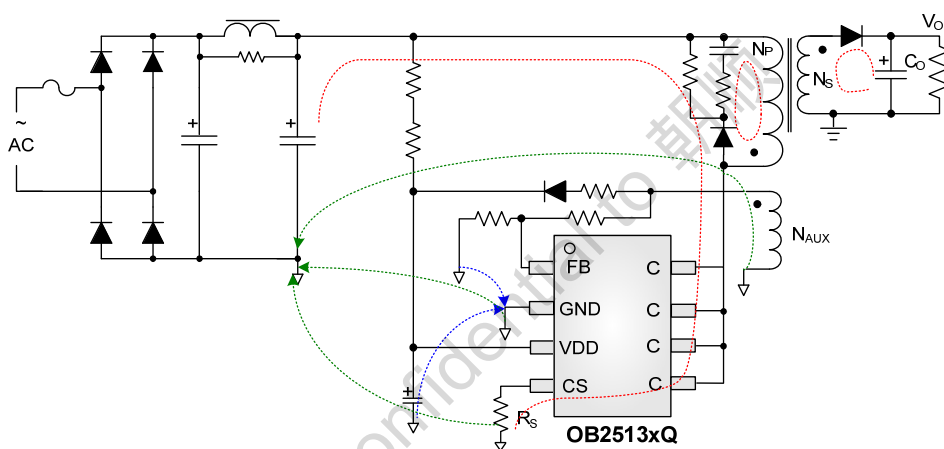

Fig.5 Flyback Schematic with OB2513xQ
**The Area of Power Loop:** The area of the main current loop should be as small as possible to reduce EMI radiation, such as the primary current loop, the snubber circuit and the secondary rectifying loop (Red wire as shows in Fig.5). Drain pin increases the copper area of the drain terminal for heat dissipation (Green region as shows in Fig.6). And the PCB trace must be wide and short for thermal consideration.
resistor should be placed as close as possible to pin out. And the negative node of VDD capacitor and the FB down resistor should be connected directly to the IC GND pin before single point connected to the negative node of the output capacitor. (Blue wire as shows in Fig.5)